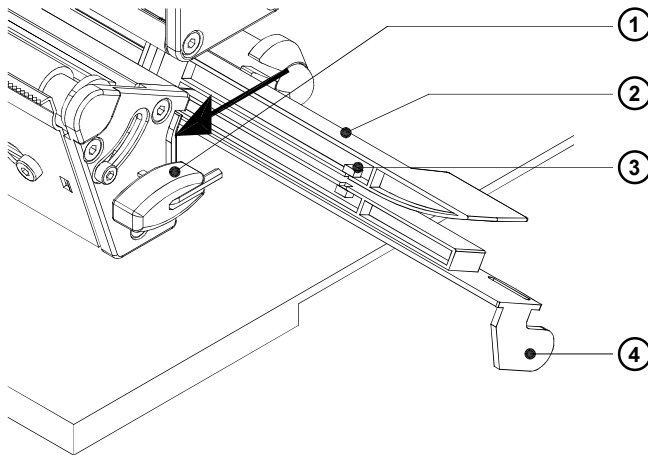

Bild D-1 Reinigung der Etikettenlichtschranke
2. Press the latch (1) in the direction of the arrow in figure D-1.
3. Continue pressing the latch and pull the label edge sensor (2) with the handle (4) to its outermost position.